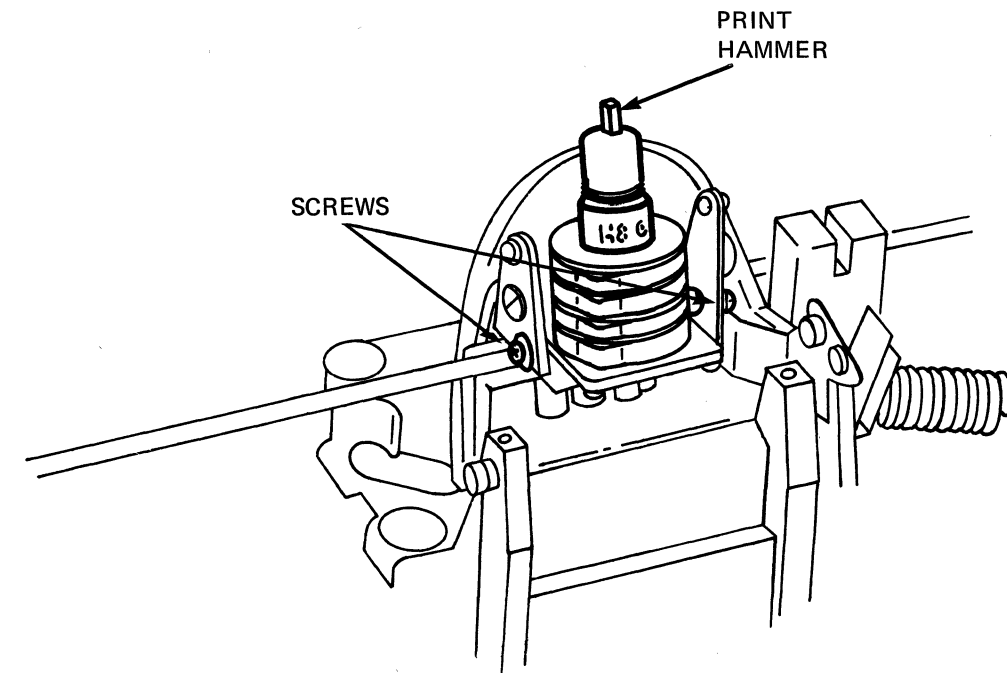

Figure 4-15 Print Hammer Removal and Assembly
- g. Remove the print hammer (see Figure 4-15).